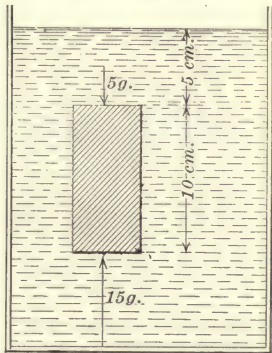

FIG. 60.—Lifting effect of water on submerged block.
66. Explanation of Archimedes' principle. This principle will be readily understood from the following example. Suppose we place a rectangular block in a jar of water, as shown in figure 60. Let the block be $10 \times 6 \times 4$ centimeters and let the top be 5 centimeters below the surface of the water, and the bottom 15 centimeters beneath the surface. Then the pressure on top, that is, the downward push on each square centimeter, is 5 grams and the pressure on the bottom, that is, the upward push on each square centimeter, is 15 grams. Since the top and bottom each have an area of 6×4 , or 24 square centimeters, the whole upward push on the bottom is 24×15 , or 360 grams, while the whole downward push on the top is only 24×5 , or 120 grams. This leaves a net upward force or buoyancy of 240 grams. But this is exactly the weight of the displaced water, for the volume of the displaced water is $10 \times 6 \times 4 = 240$ cubic centimeters, and we have seen in section 11 that this much water weighs 240 grams.